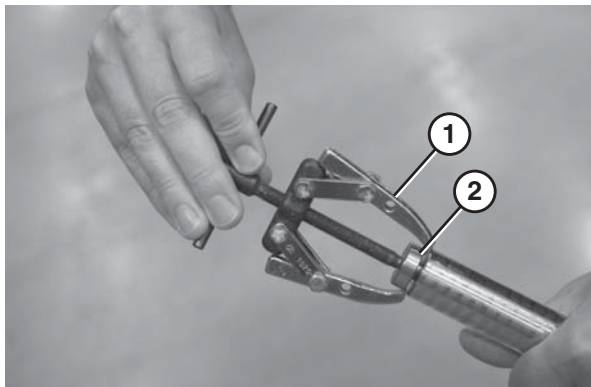

Figure 87
3. Using a bearing removal tool (Figure 87, item 1) remove the bearing (Figure 87, item 2).